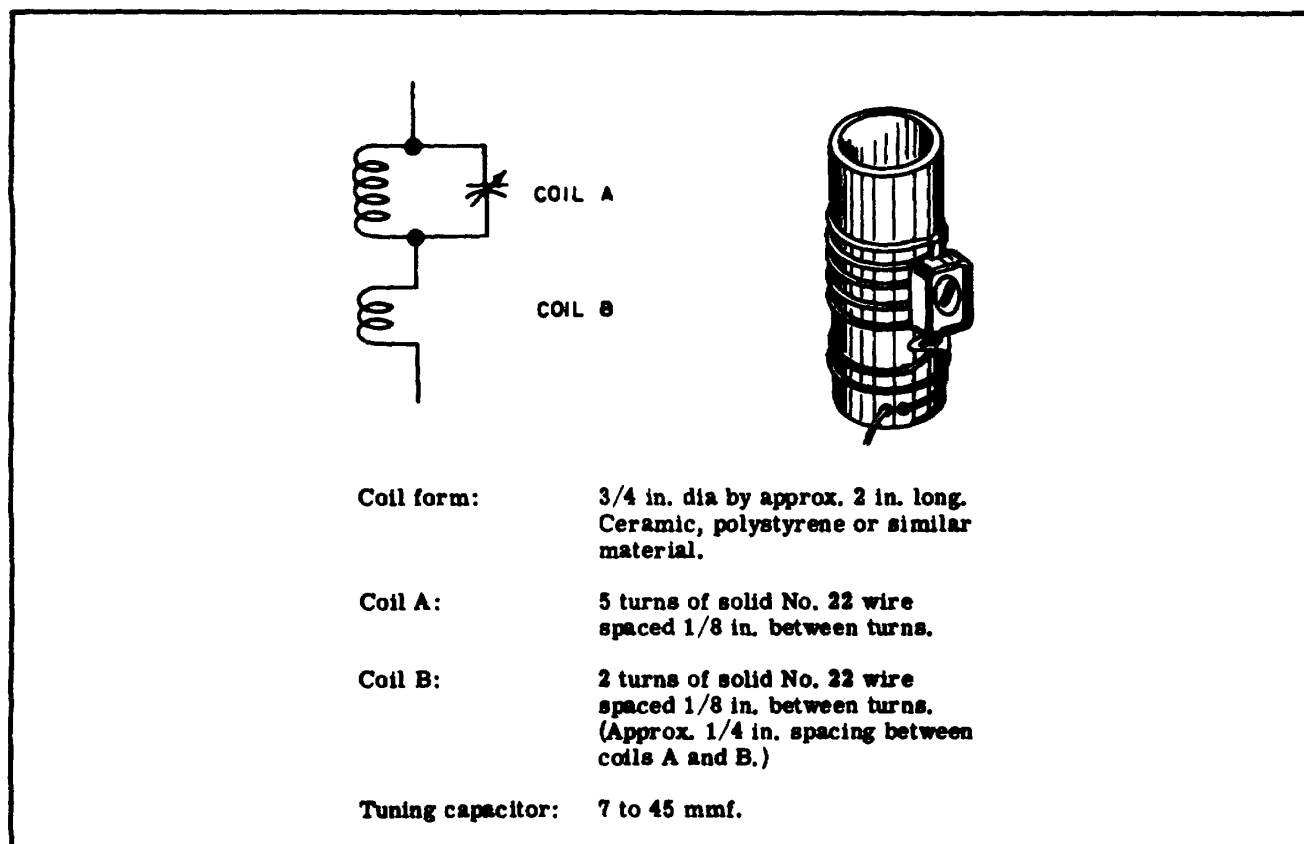
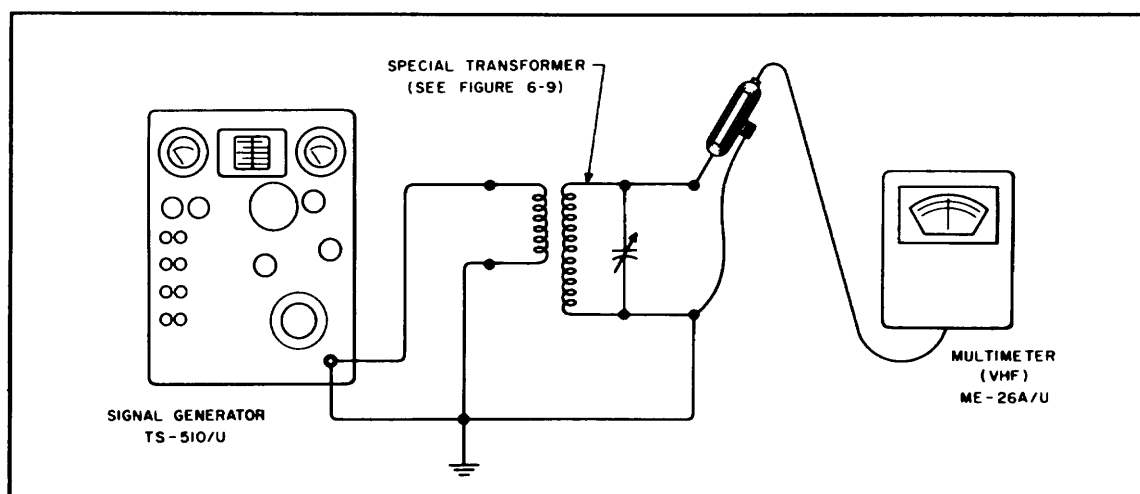

Figure 6-9. Special R-F Transformer Used for Measuring Percentage Modulation
Figure 6-10. Test Set-Up for Measuring Percent Modulation of R-F Carrier
6-33. Following a repair of the modulation measuring circuits or after replacement of the meter itself, it is necessary to recalibrate the PERCENT MODULATION meter. The method of calibration outlined below requires the use of a peak-reading electronic voltmeter capable of measuring a-c voltages to over 400 megacycles, such as the ME-26A/U, and the tuned step-up transformer shown in Figure 6-9 to obtain adequate voltage. Basically, the peak value of the r-f output signal is measured without modulation and then with modulation. A doubling of the peak output voltage indicated on the multimeter represents 100% modulation of the output signal, while lesser percentages of modulation are indicated by proportionally smaller voltage increments.
6-34. The tuned transformer is easily fabricated with conventional tools and parts. Figure 6-9 illustrates such a transformer with all details needed for fabrication. The voltage from the tuned circuit should reach at least two volts with the signal generator OUTPUT VOLTS meter set exactly on SET LEVEL with no modulation present and the attenuator set to 0 dbm. For this procedure, all measurements are made by reading the 0 to 3 volt scale between the 1 and 2 volt calibrations. The 1-volt calibration mark represents 0% modulation; the 2-volt calibration represents 100% modulation; the intermediate graduations indicate each 10% increment of modulation percentage. The accuracy of this method of measurement is expected to be within 5%. To calibrate the PERCENT MODULATION meter, refer to Figure 6-10 and proceed as follows:
b. Connect the signal generator to the test apparatus as shown in Figure 6-10.